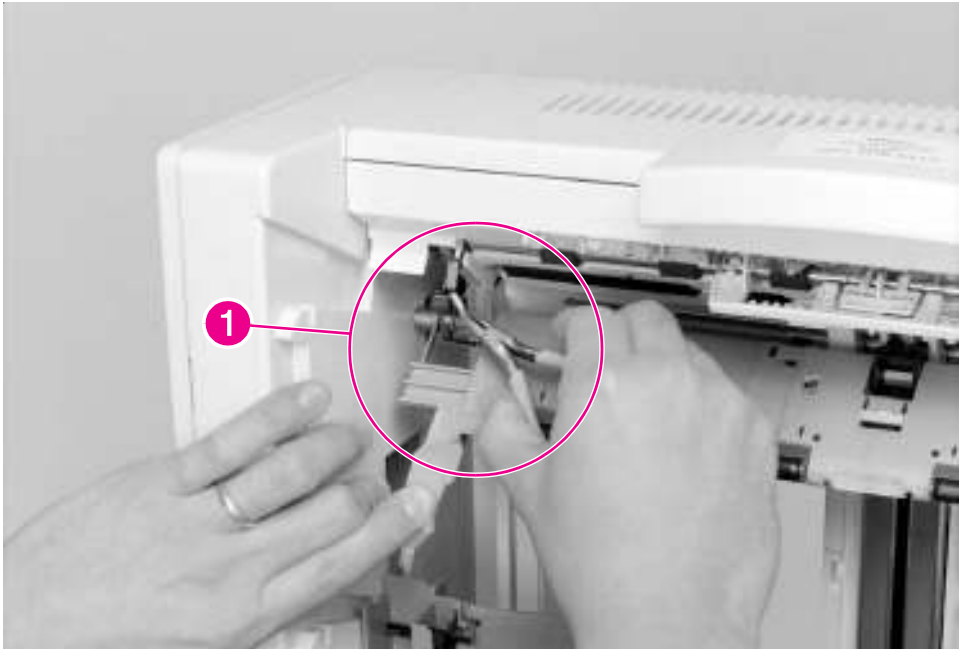

Figure 6-159 8-bin Mailbox Input Paper Guide (1 of 2)
- 3 Hold down the Jam Access Door while unplugging the ground wire that runs from the Input Paper Guide to the Flipper Motor (Figure 6-159, callout 1).
- 2 Reconnect the ground wire to the Flipper Motor (Figure 6-159, callout 1).